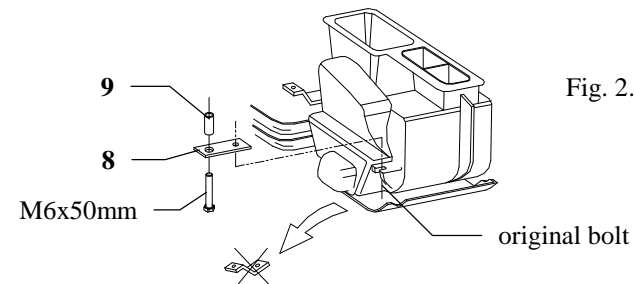

Fig. 2. Filter installation
2. In long version with air-conditioning disassemble a filter (fig. 2).
6. In long version with air-conditioning reassemble a filter (see fig. 2).